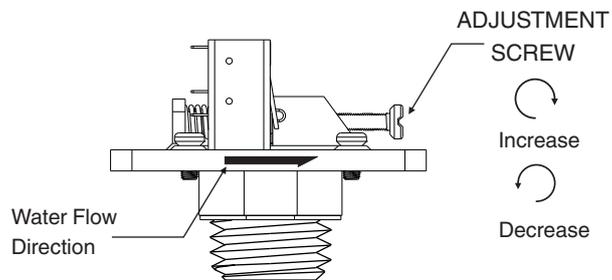

Fig.3. Paddle Tension Adjustment System
Paddle tension to suit flow can be changed by adjusting the setting screw as shown in fig.3.
- Care must be taken to properly orient the device for the direction of flow.(fig.3)